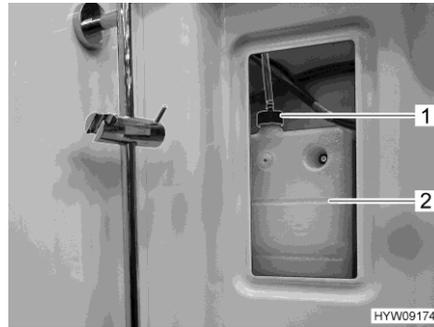
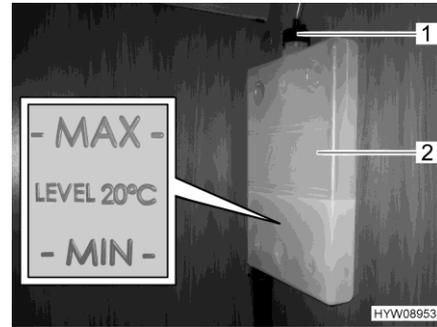

Fig. 221 Compensator reservoir (hot-water heater)
Fig. 222 Marking "MIN/MAX"
- Remove the cover for the compensator reservoir (Fig. 221,2) in the right-hand upper part of the shower.
- Check if the fluid level is between the marks "MIN" and "MAX" (Fig. 222) on the compensator reservoir (Fig. 222,2).
- Open the rotary lid (Fig. 221,1 or Fig. 222,1) on the compensator reservoir.